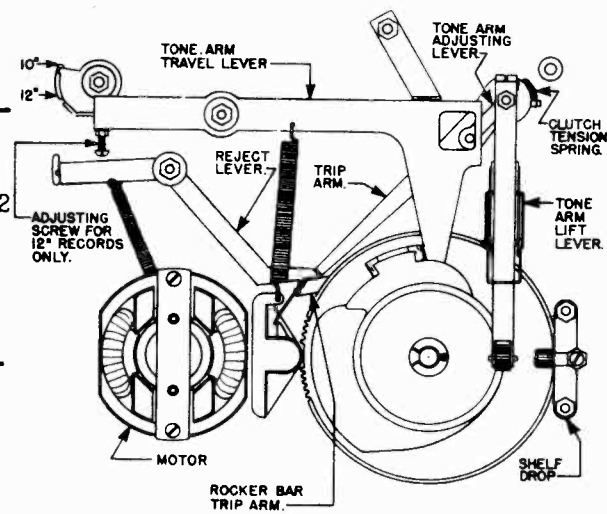

FIGURE 7
To adjust tone arm drop, place gauge on turntable, large hole (A) over spindle, place needle in tone arm and then place tone arm so the needle sets in small hole marked "NEEDLE SET FOR 10". Throw 10" record lever in correct position. The tone arm adjusting lever, see Fig. 7, must have its stud in contact with the tone arm travel lever, this lever must be in contact with die cast cam and gear. Loosen screw in adjusting lever and adjust lever, then tighten. Check operation and repeat until tone arm drops in correct position.
2. It may be possible that the trip arm may have jumped to the wrong side of the rocker bar trip arm, see Fig. 7. It should be on the same side as reject arm.